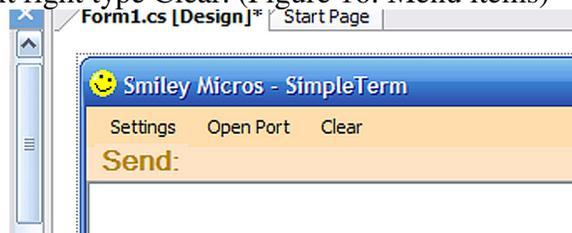

Figure 16: Menu items
- And in the next right type Clear. (Figure 16: Menu items)